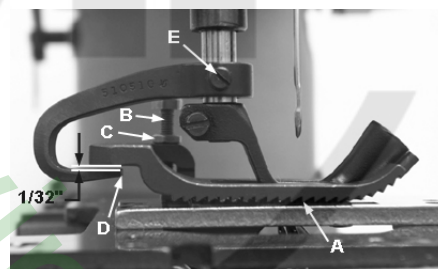

Fig 10A
Set the up upper feed dog so at it lowest position the teeth will just contact the lower feed dog teeth (A, Fig 10A). To make this adjustment, loosen nut (C) and turn screw (B) up or down as required. Lock nut (C) after adjustment has been made.
With the upper feed dog at its lowest position, set the lift lever so the there is approximately $\frac{1}{32}$ " clearance between the top of the lift lever and the bottom of the feed dog heel. (D, Fig 10A) To make this adjustment loosen screw (E) and move the lift lever up or down as required.